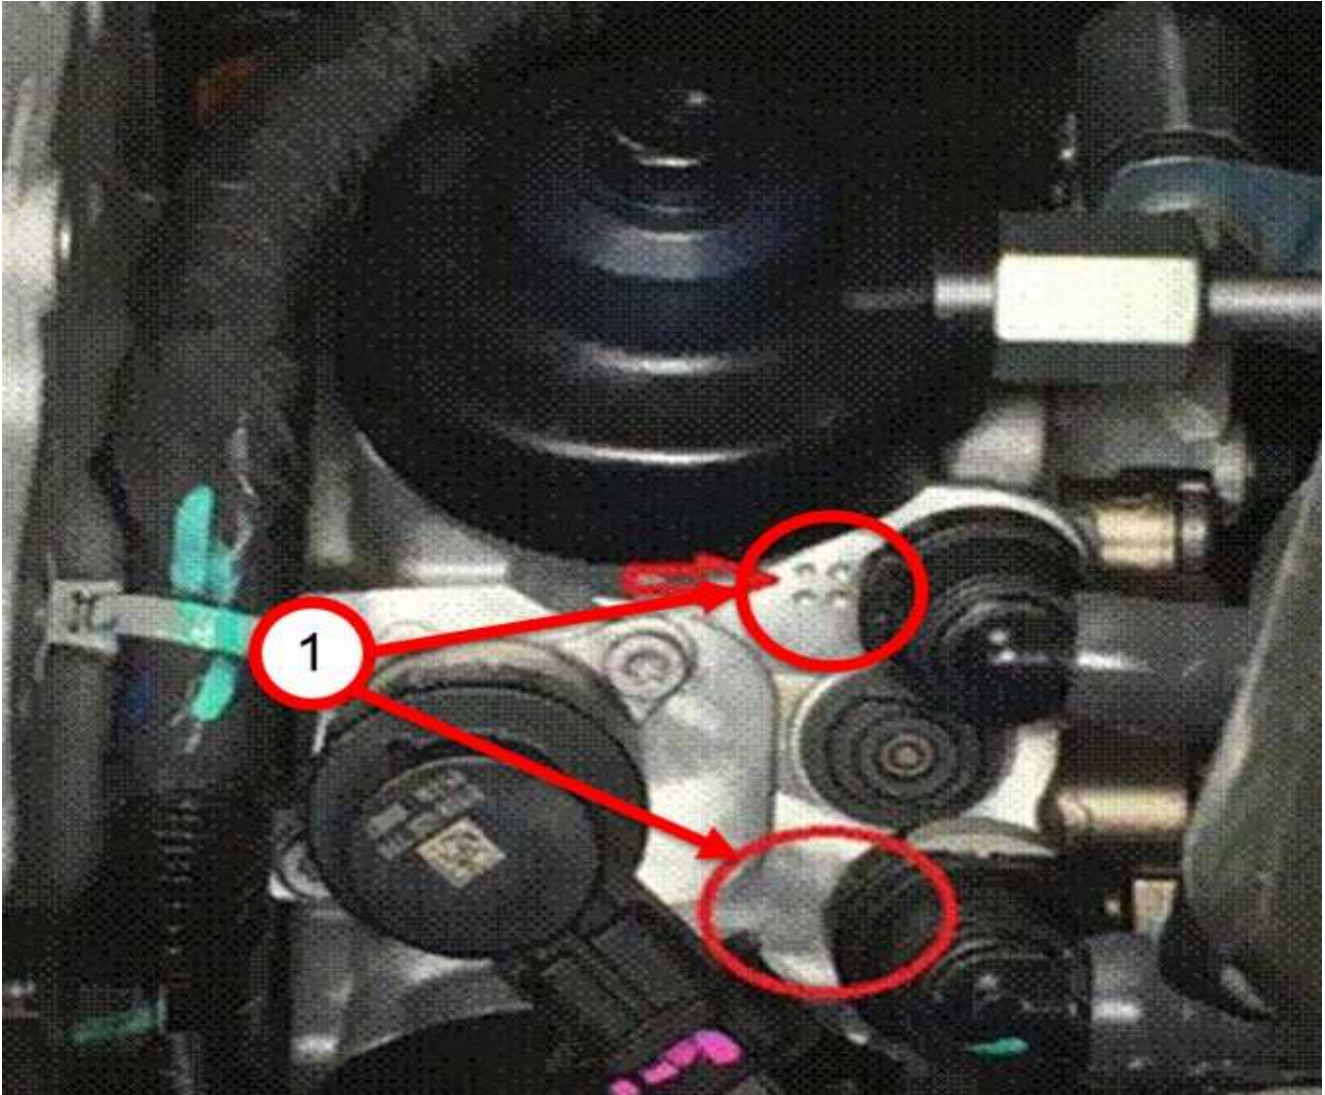

Fig. 2
- Vehicles with the old style Asymmetrical Cam design will have either multiple dots or no dots embossed in the pump housing (Fig. 2) .